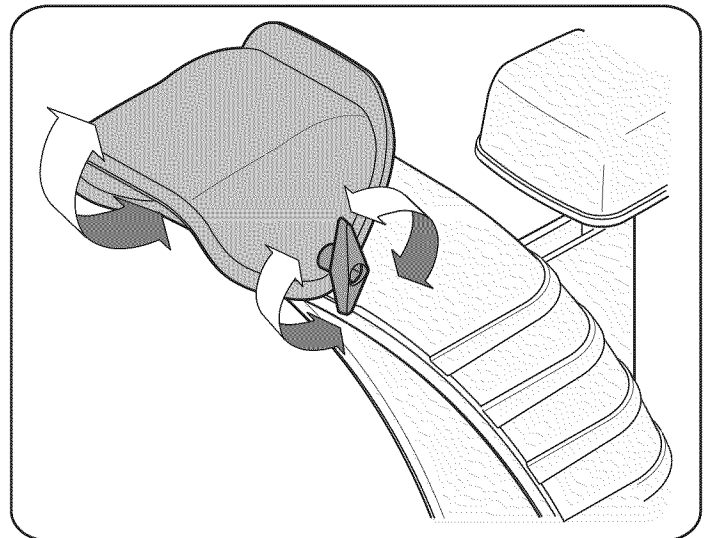

Figure 11
2. Pivot the chute upward or downward before retightening the wing knob. See Figure 11.